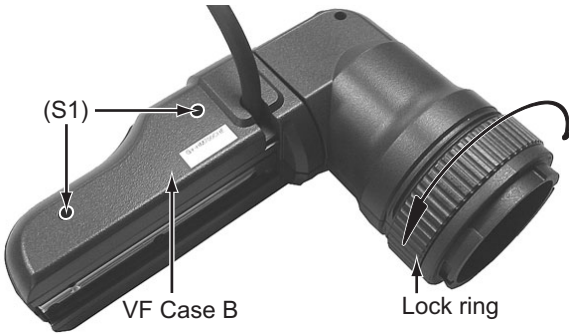
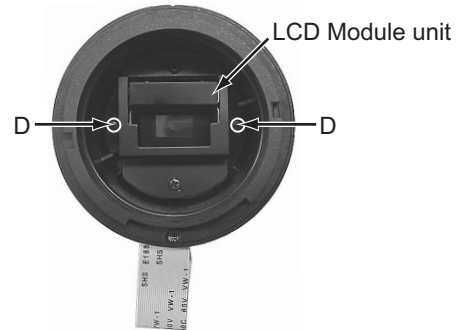
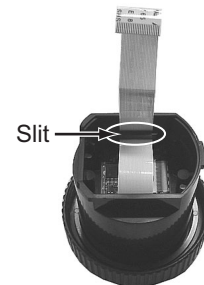
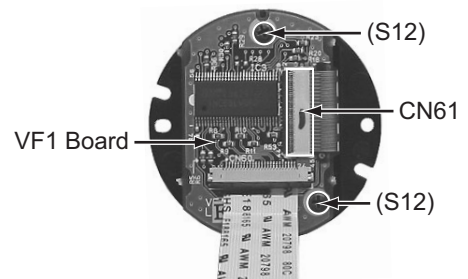

Fig.39
Fig.42
Fig.43
Fig.44
3.6.2 Removing the VF1 board and VF2 board (See figure 39, figure 40, figure 41, figure 42, figure 43 and figure 44)